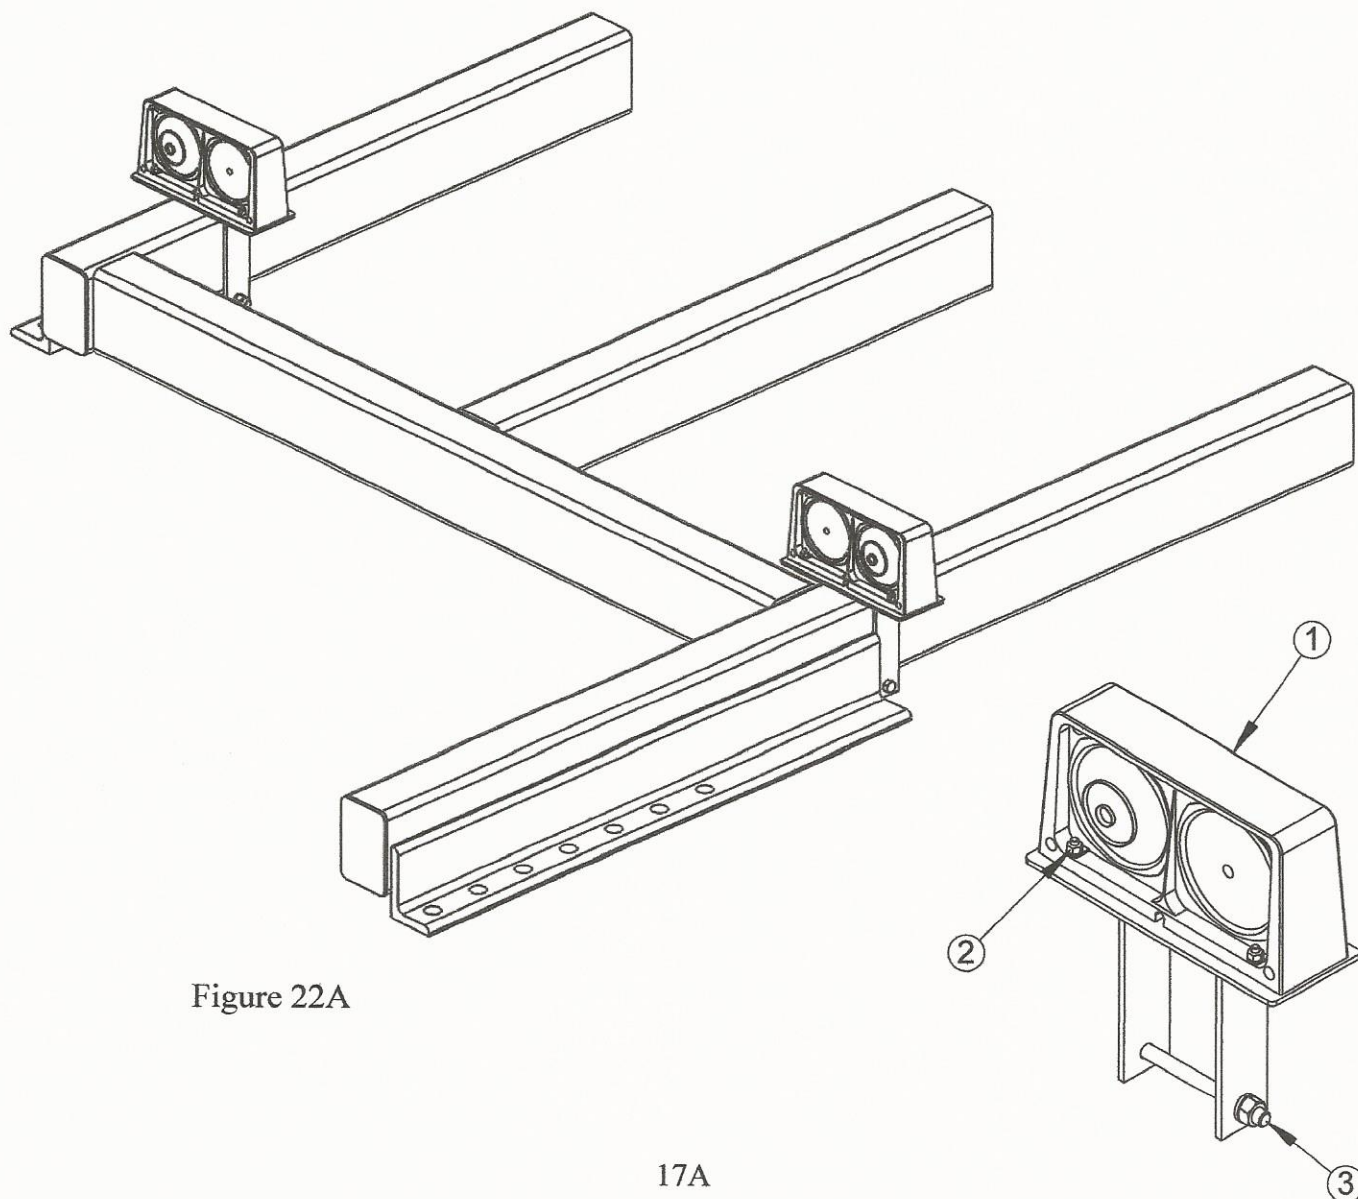

Figure 22A
A) To Attach Safety Lighting (Refer to Figure 22A)
- 1) Attach each Transport Lighting Assembly (1) to the Safety Lighting Brackets with four $\frac{1}{4}$ x $1 \frac{1}{4}$ " Hex Bolts, $\frac{1}{4}$ " Flatwasher, and a $\frac{1}{4}$ " Lock Nut (2). Secure Transport Lighting by tightening $\frac{1}{4}$ " Lock Nuts. Place each Lighting Assembly on the outside tubes of the Main Frame as shown. Attach each Lighting Bracket to the Main Frame with a $\frac{1}{2}$ x $5 \frac{1}{2}$ " Hex Bolt, $\frac{1}{2}$ " Lockwasher, and a $\frac{1}{2}$ " Hex Nut (3). Tighten securely.